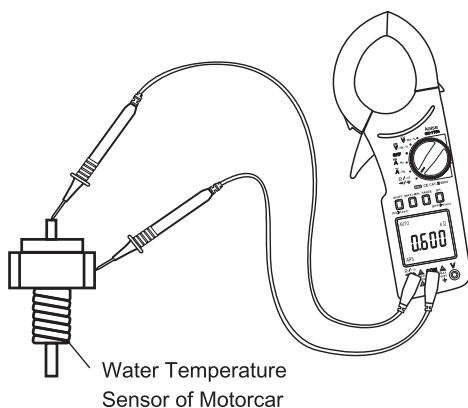

Fig. 10
6. Read the resistance on LCD. Refer to the Fig. 10.